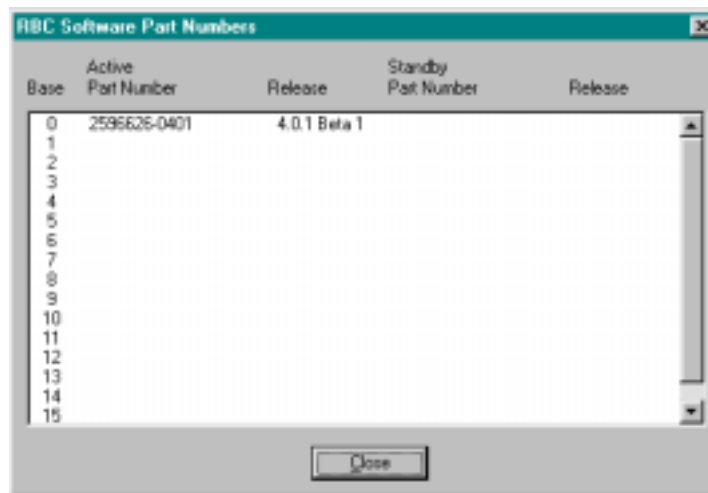

Figure 6.12b
2. The RBC software number(s) and release numbers are displayed in the format shown in Figure 6.12b.